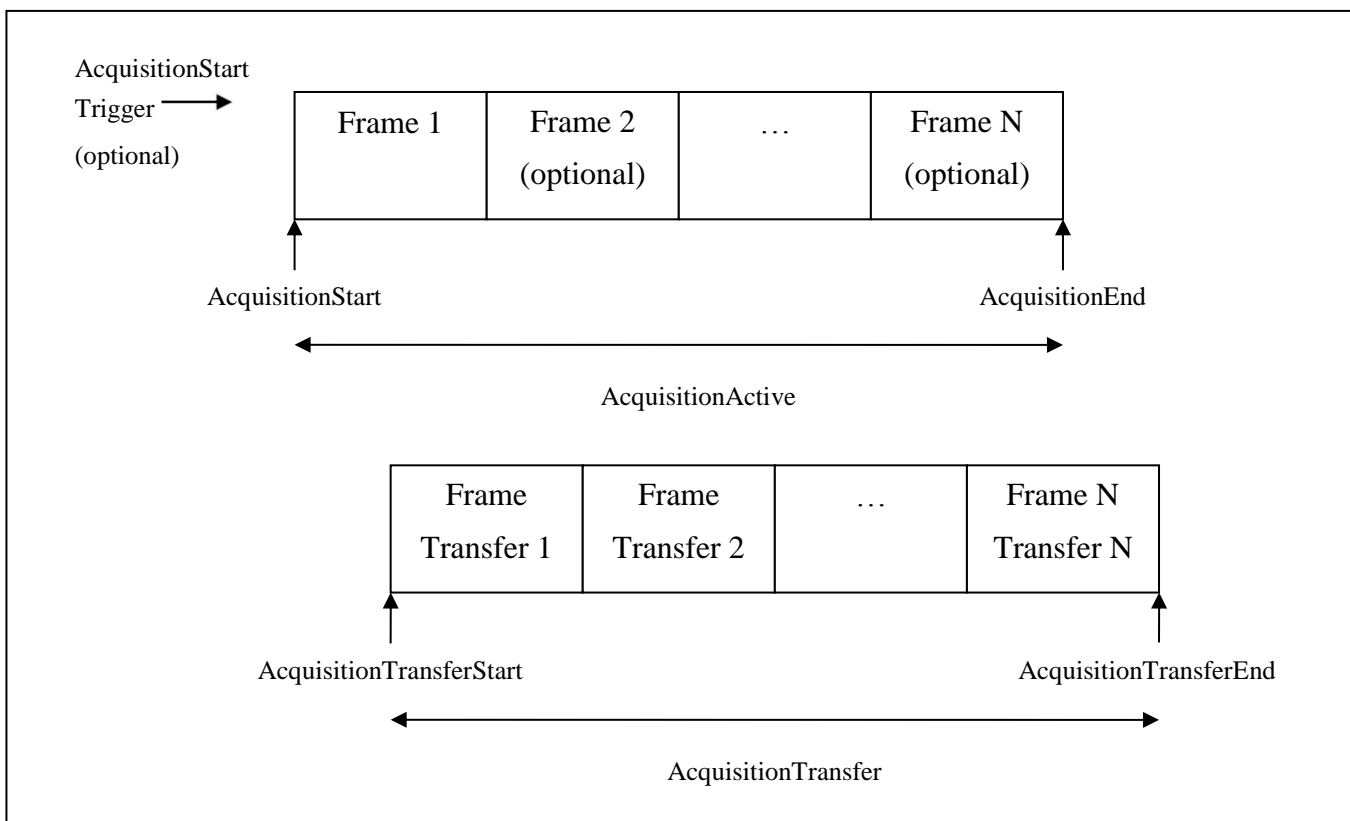
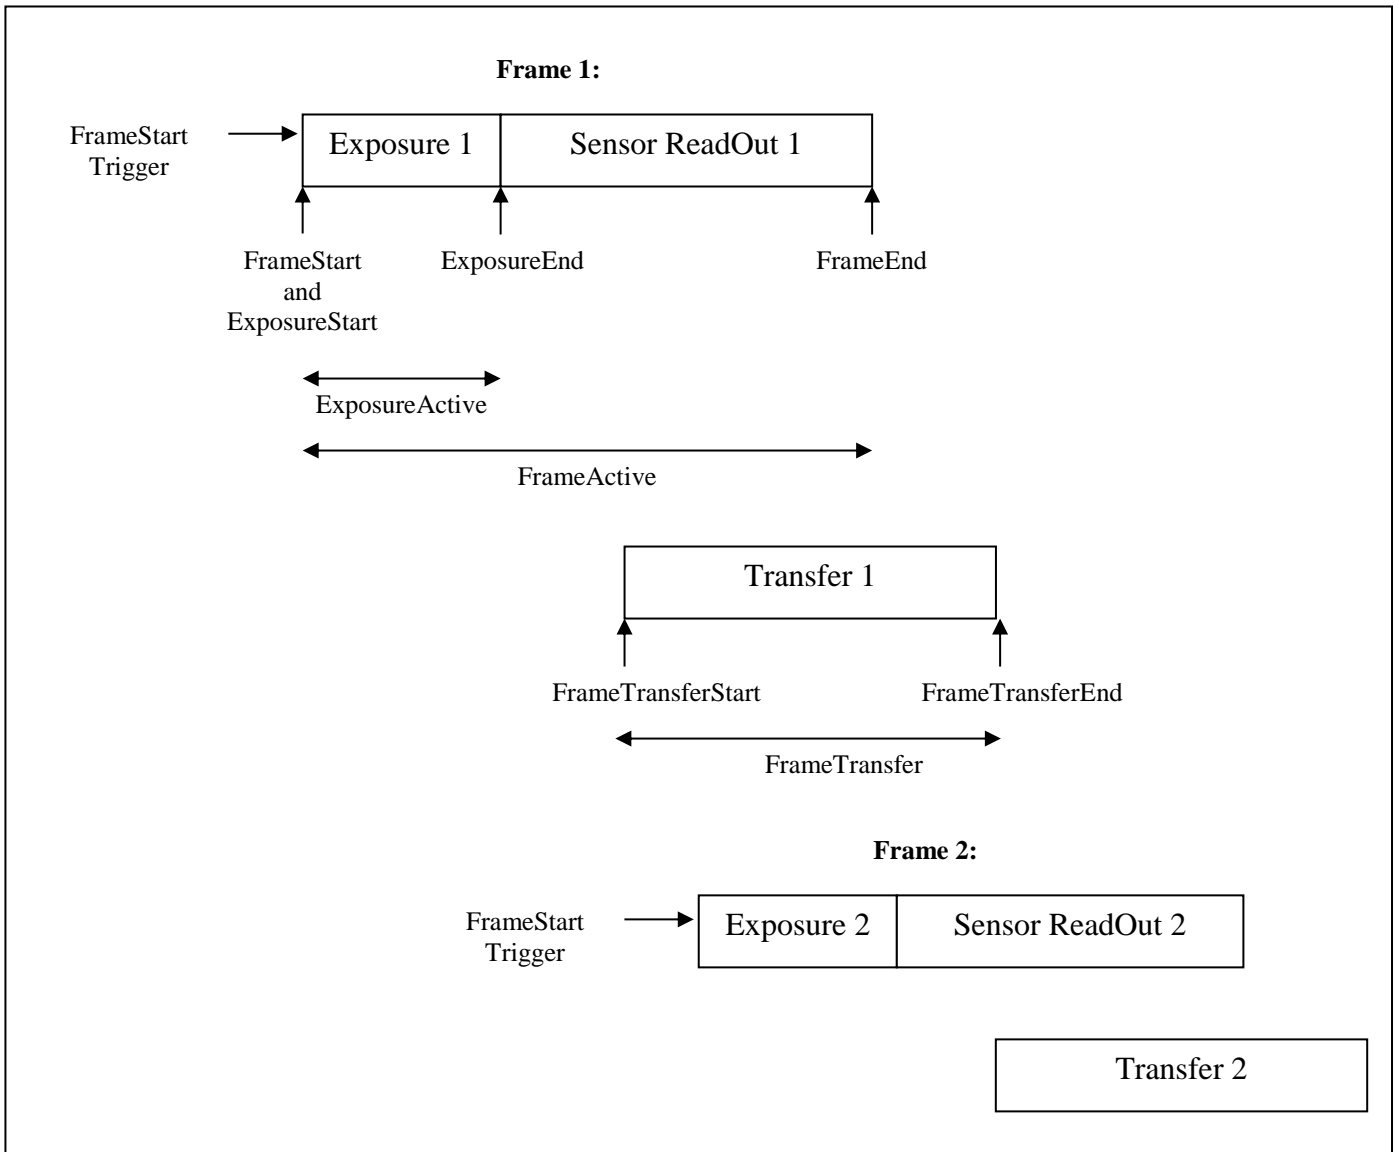

Figure 5-1: Acquisition signals definition
Figure 5-3: Frame signals definition
An **Acquisition** is composed of one or many **Frames** made of **Line(s)**. The **Frames** of an **Acquisition** can optionally be grouped in smaller **Bursts** that are triggered individually. An **Acquisition** is defined as the capture of a sequence of one or many **Frame(s)** (See Figure 5-1).
A **Burst** of **Frame(s)** is defined as the capture of a group of one or many **Frame(s)** within an **Acquisition** (See Figure 5-1). If a **FrameBurstStart** or **FrameBurstActive** trigger is enabled (its **TriggerMode=On**), an acquisition can be broken in many smaller **Bursts**. In this case, each **Burst** has its own trigger. If only the **FrameBurstStart** trigger is enabled, **AcquisitionBurstFrameCount** determines the length of each burst. If the **FrameBurstStart** and **FrameBurstEnd** triggers are enabled, they are used to delimit the length of every single burst. If the **FrameBurstActive** trigger is enabled, it determines the length of each individual burst (the burst lasts as long as the trigger is asserted).
**AcquisitionStatusSelector** and **AcquisitionStatus** can be used to read the status of the internal acquisition signals. The standard acquisition signals Status are: **AcquisitionTriggerWait**, **AcquisitionActive**, **AcquisitionTransfer**, **FrameTriggerWait**, **FrameActive**, **ExposureActive** (See Figure 5-1 and Figure 5-3).